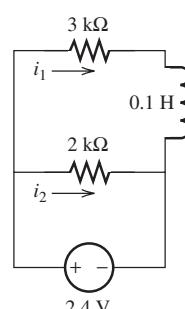

FIGURE P4.34 Circuit with an inductor.
- 4.34 (B)** Find i_1 in the circuit as shown in Figure P4.34.